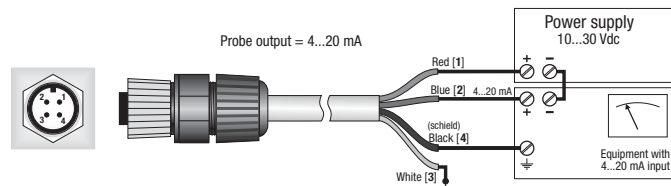

Fig. 7
- LP PYRHE 16 AC should be connected to a power supply device and to a multimeter according to the scheme below (figure 7), the load resistance for signal readout should be $\leq 500 \Omega$: